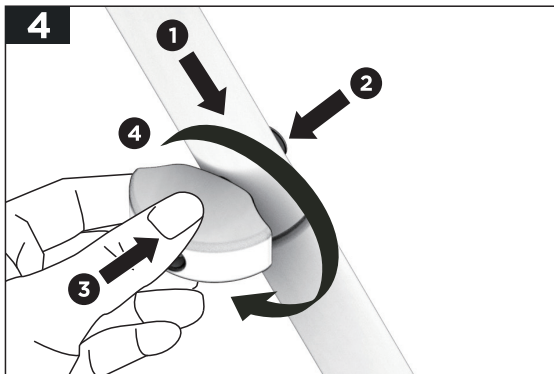

Fig. 5
d. Slide the upper shaft onto the middle shaft. Line up the two square mounting holes on each tube. Align and insert the shaft-locking bolt through the aligned holes and into the end. Then, insert the shaft-locking knob into the end of the bolt from the other side. Tighten the knob by turning it clockwise. (Fig. 5)